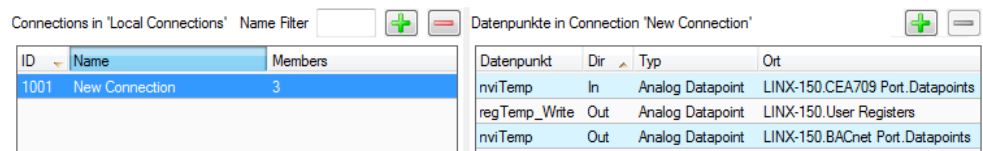

Figure 156: Connection tab with a connection and data points.
- Now the connection tab contains the new connection and on the right-hand side the list of data points in that connection as shown in Figure 156.